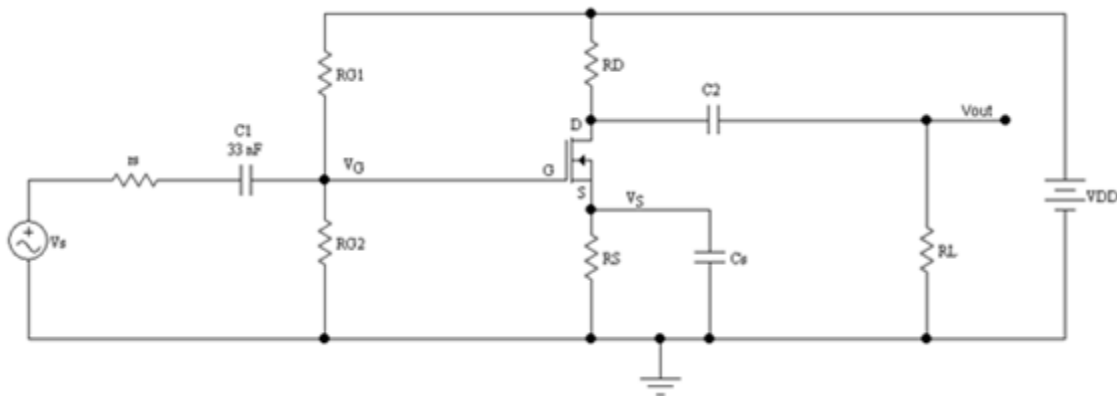

Figure 9.1: Common Source Amplifier
1. Design the common-source amplifier of Figure 9.1.
18. Build the circuit of Figure 9.1.